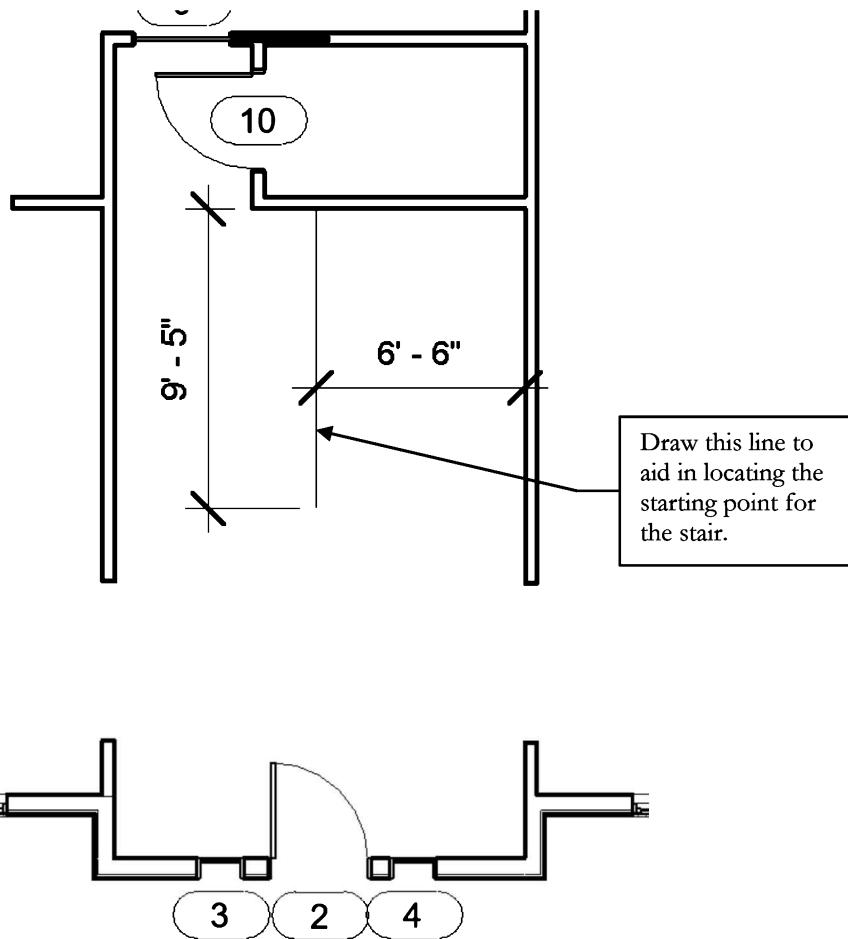

FIGURE 6-5.4 Draw a temporary detail line
6. Using the *Detail Line* tool from the *Annotate* tab, draw the temporary line in the *First Floor Plan* view, as shown in Figure 6-5.4.